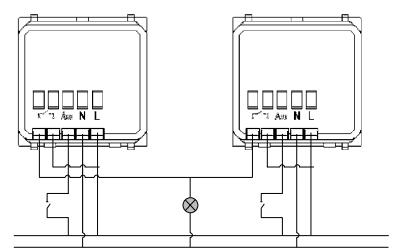

Figure 5: Parallel wiring diagram
- To change the fuse, lift the switch, pulling softly along its edge (Fig. 5) and remove the fuse holder (Fig. 6).
To ensure that the detection of movement by any of the devices installed activates the load controlled by all of them, their outputs should be wired in parallel to the load. See wiring diagram in Figure 5.